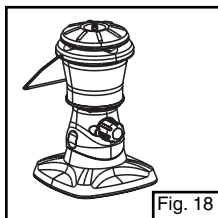

Fig. 18
- Lantern must be placed in base for secure storage. (Fig. 18)